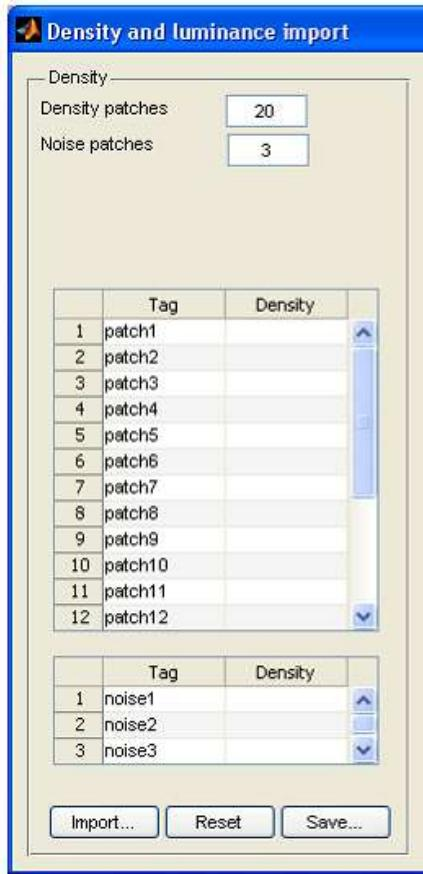

Figure 39. Screenshot of Density Patch Data Input Space
7. Enter the data in the column labeled **Density** (Figure 39). In the space provided to the right of each patch number, enter the data from the certificate for each patch. Press the keyboard **down arrow** after each entry.